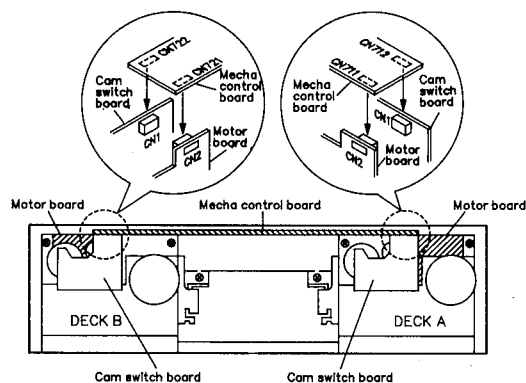
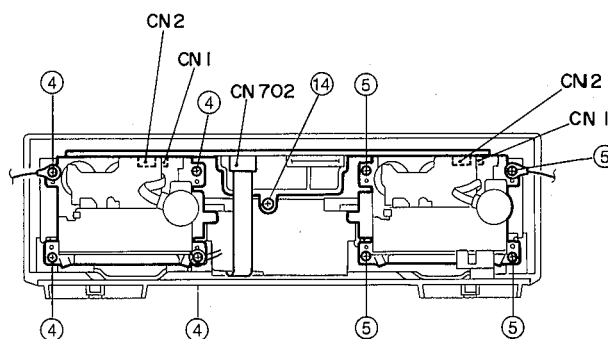

Fig. 2-4
Fig. 2-5
1. Remove four screws ④ and four screws ⑤ from the corners of the mechanism. (Fig. 2-5)
2. Remove one screw ⑭ retain the FL holder, and disconnect CN702 from mechanism board.
3. Top side connector of the cam switch board (CN2). Connector of the motor board (CN1). (Board to board connector) (See Fig. 2-4 and Fig. 2-8)